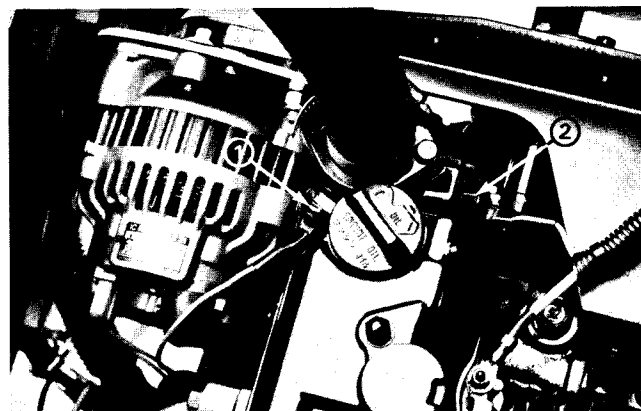

Figure 14
Test the lamp by grounding the wire that is connected to the high temperature shut-down switch (Fig. 14). The light should come on when the wire is grounded.
1. Lower the coolant level in the engine and remove the high temperature shut-down switch (Fig. 14).
1. Lower the coolant level in the engine and remove the temperature gauge sender (Fig. 14).